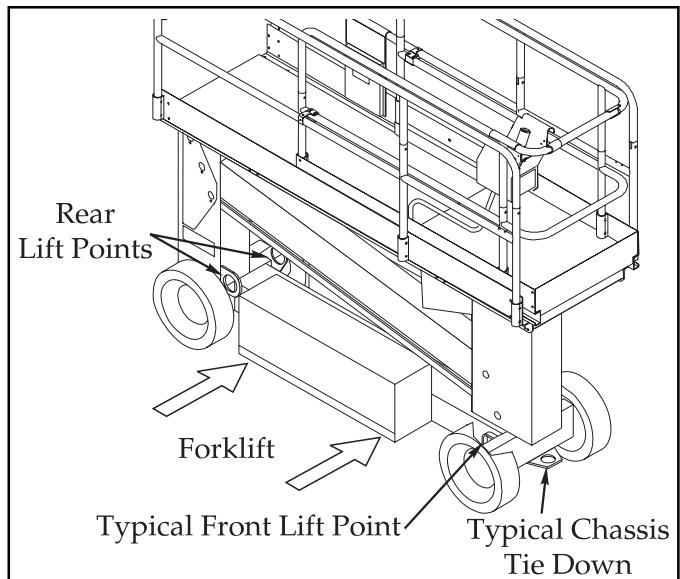

Figure 3: Transporting Work Platform
Forklift from the side by lifting under chassis modules (Figure 3).
1. Secure straps to chassis lift points only (Figure 3).
2. Secure the work platform to the transport vehicle with chains or straps of adequate load capacity attached to the chassis tie down lugs **only** (Figure 3).